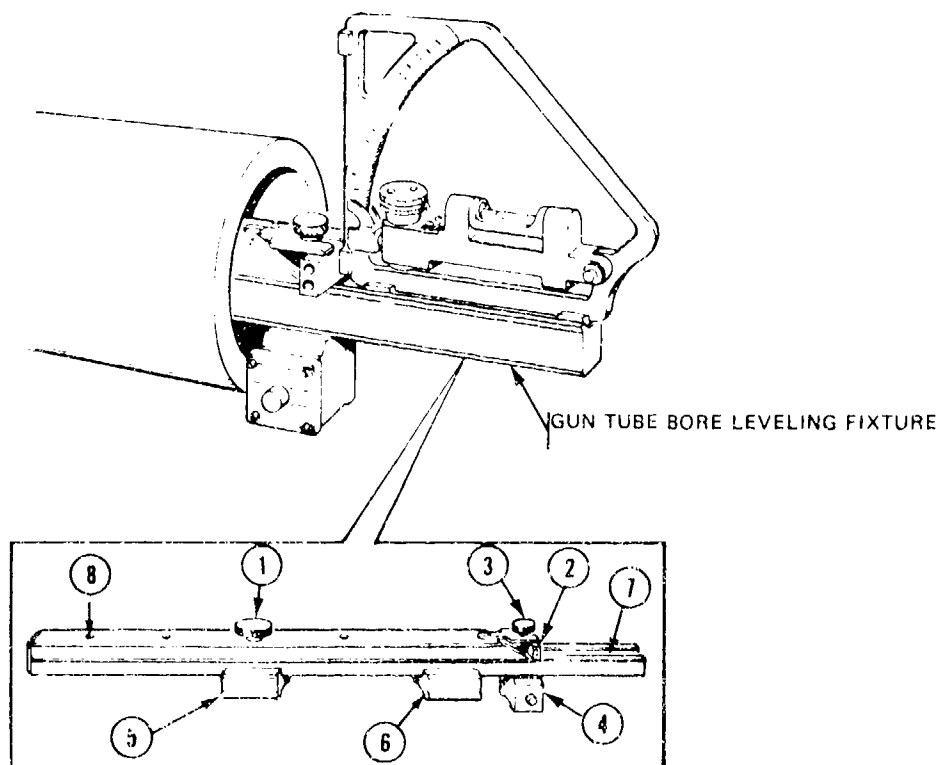

Figure 4-21. Tube bore leveling fixture.
(5) The ultimate goal is to eliminate the need for embedded corrections. What is being accomplished to achieve that goal is also a twofold process:
(a) First, cannon engineers have developed the tube-leveling fixture (fig 4-21) mentioned in (4)(a) above. This device, as its name implies, is used to level the howitzer tube. This fixture is